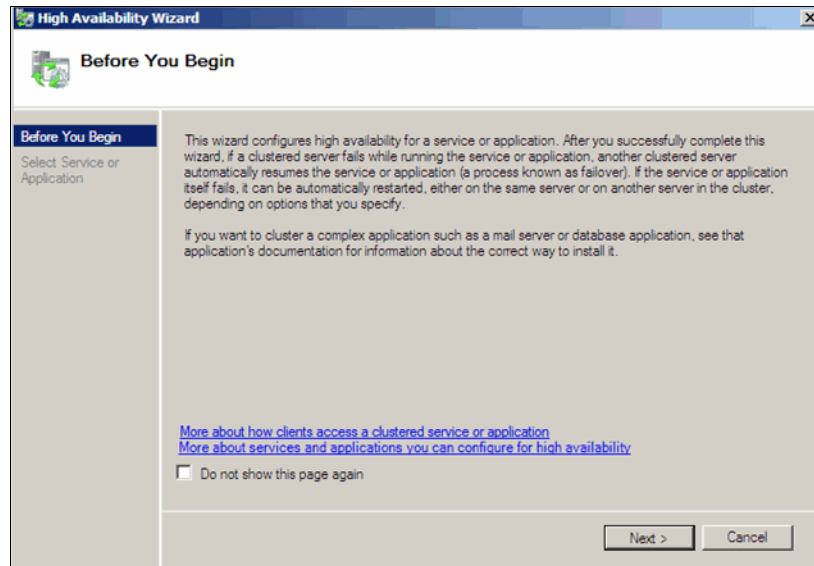

Figure 19-28 HA Wizard
6. Review the text on the first page of the wizard as shown in Figure 19-28 on page 579, and then click **Next**